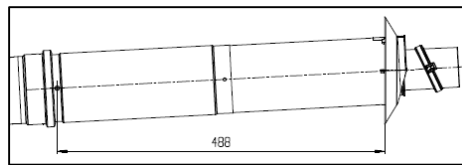

Fig. 1: 60/100mm Flue 7-716-191-082
**60/100:** The standard telescopic flue & terminal 7-716-191-082 can be used to pass through external walls up to 488mm thick (see Fig. 1).